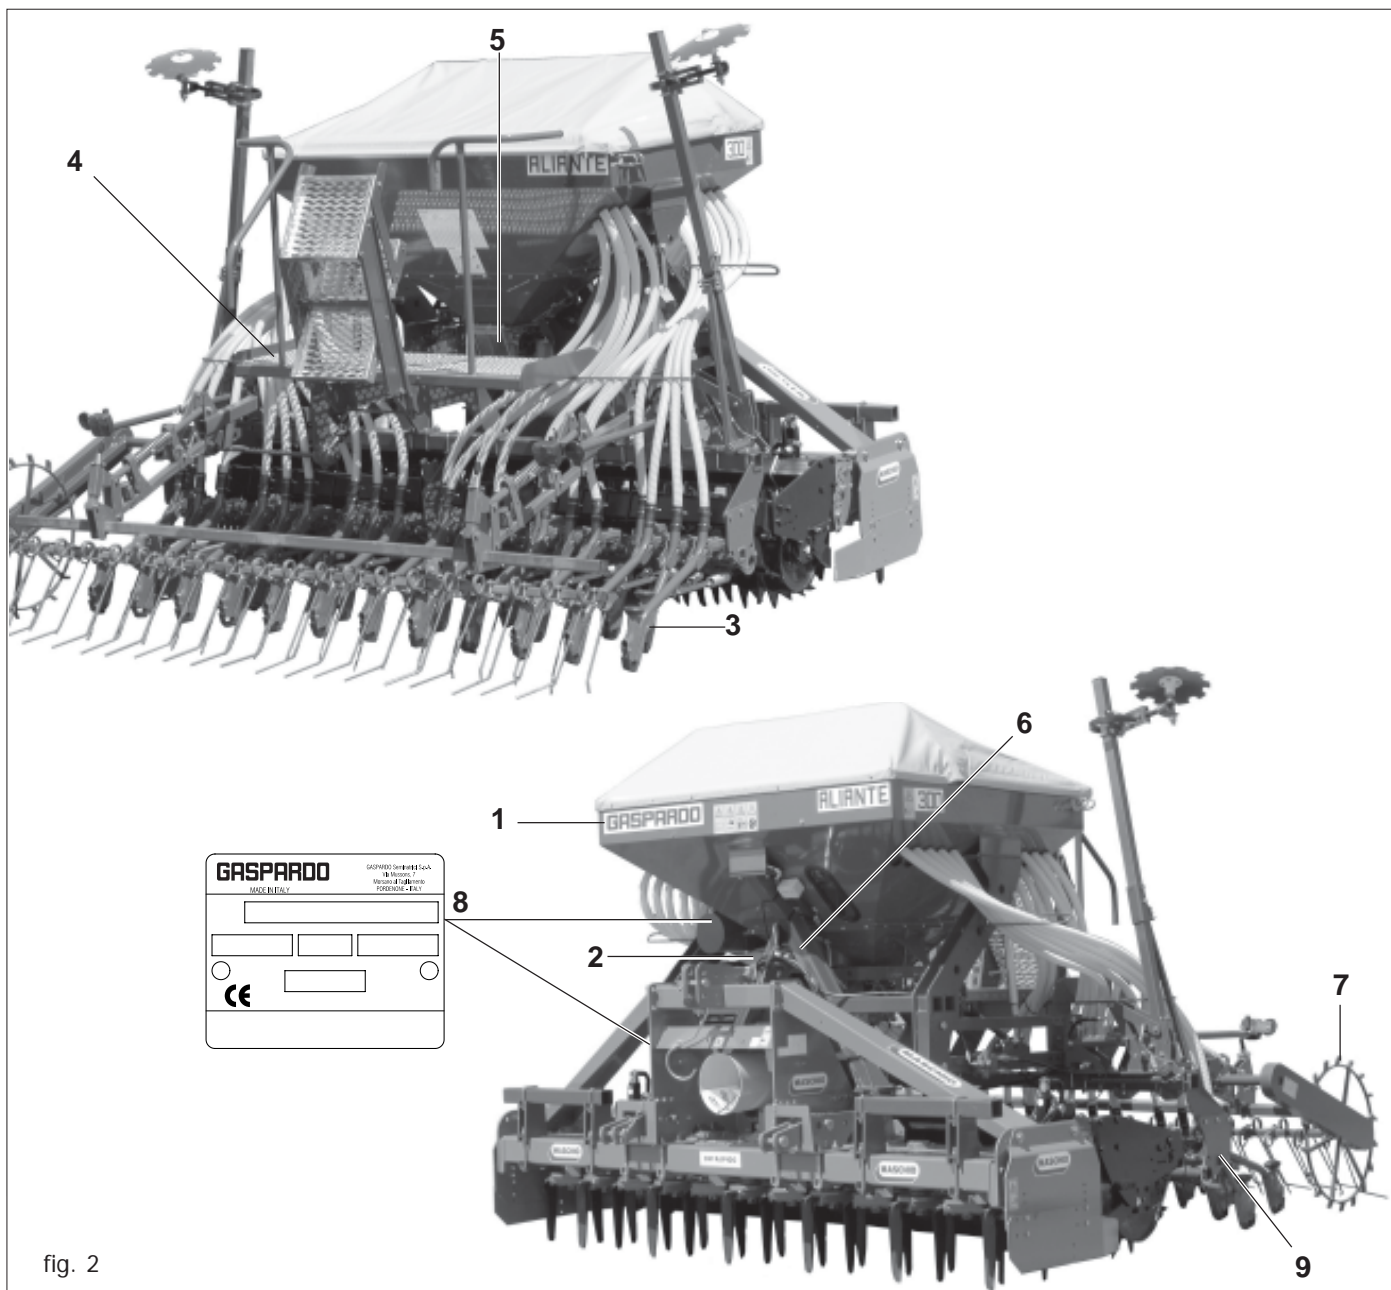

fig. 2
Each individual machine has an identification plate (8 Fig. 2) indicating the following details:
If the machine is handled, it must be lifted by hooking onto the appropriate holes (A) (Fig. 1) with a suitable winch or crane of sufficient capacity. Because of the danger involved, this operation should be carried out by trained and responsible personnel. The mass of the machine is on the identification Plate (8 Fig. 2).
The hook points can be detected by finding the «hook» symbol (8 Fig. 2).
1.4 ASSEMBLY DRAWING (Fig. 2)